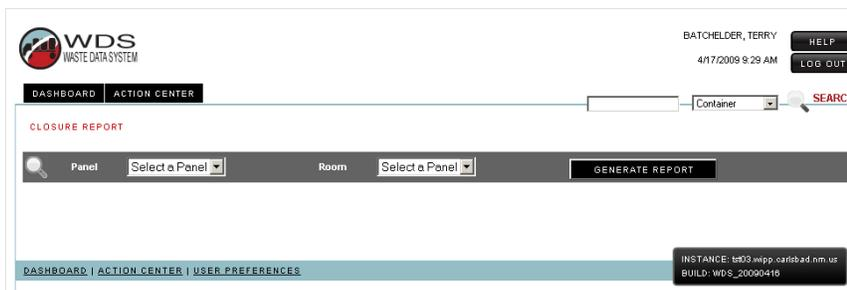

Figure 6-1 - Closure Report
- 6.1.1 Select the **Panel** as shown in Figure 6-1.
- 6.1.2 Select the **Room** as shown in Figure 6-1.
- 6.1.3 Select the **Generate Report** button as shown in Figure 6-1.